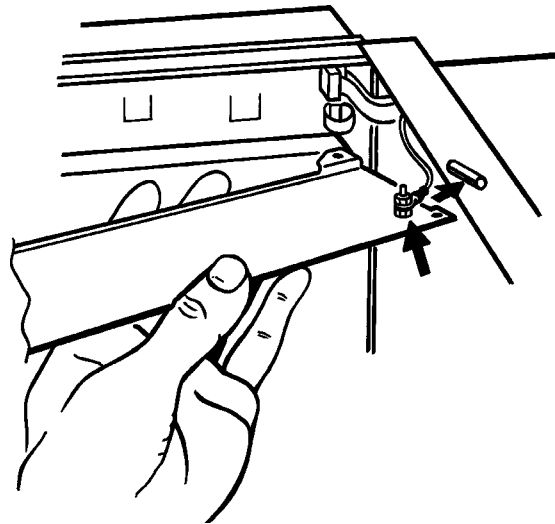

Figure 4.9.2b
3. Referring to figure 4.9.2b, disconnect the earthing loom (harness) by removing the securing nut and associated washer. Retain the fixings for use in later re-assembly.